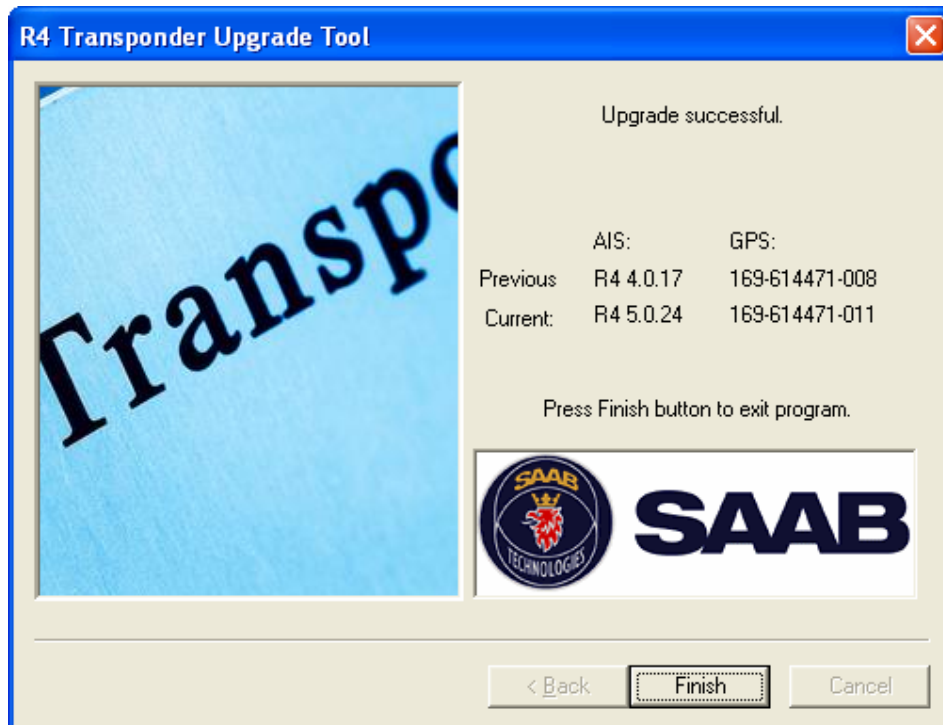

Figure 6: AIS R4 Download Finish Dialog
8. A final screen will be presented (Figure 6). The R4 Transponder application software and GPS module firmware versions before and after the upgrade will be displayed. These can be noted for reference.